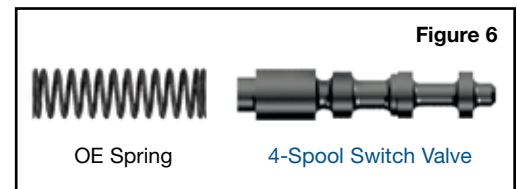

Figure 6
Step 7 Install Oversized 4-Spool Switch Valve (Figure 6)